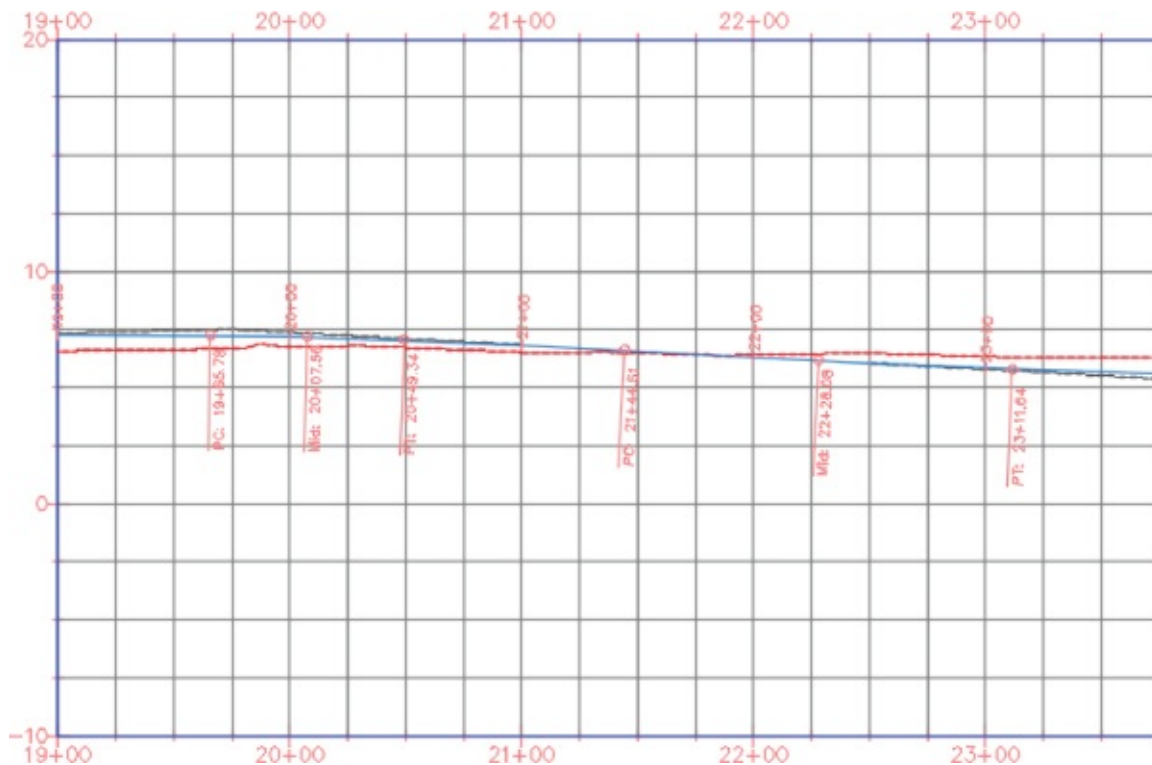

Figure 7.70 Labels applied to major stations and alignment geometry points
11. Drag the dialog out of the way to view the changes to the profile, as shown in Figure 7.70.